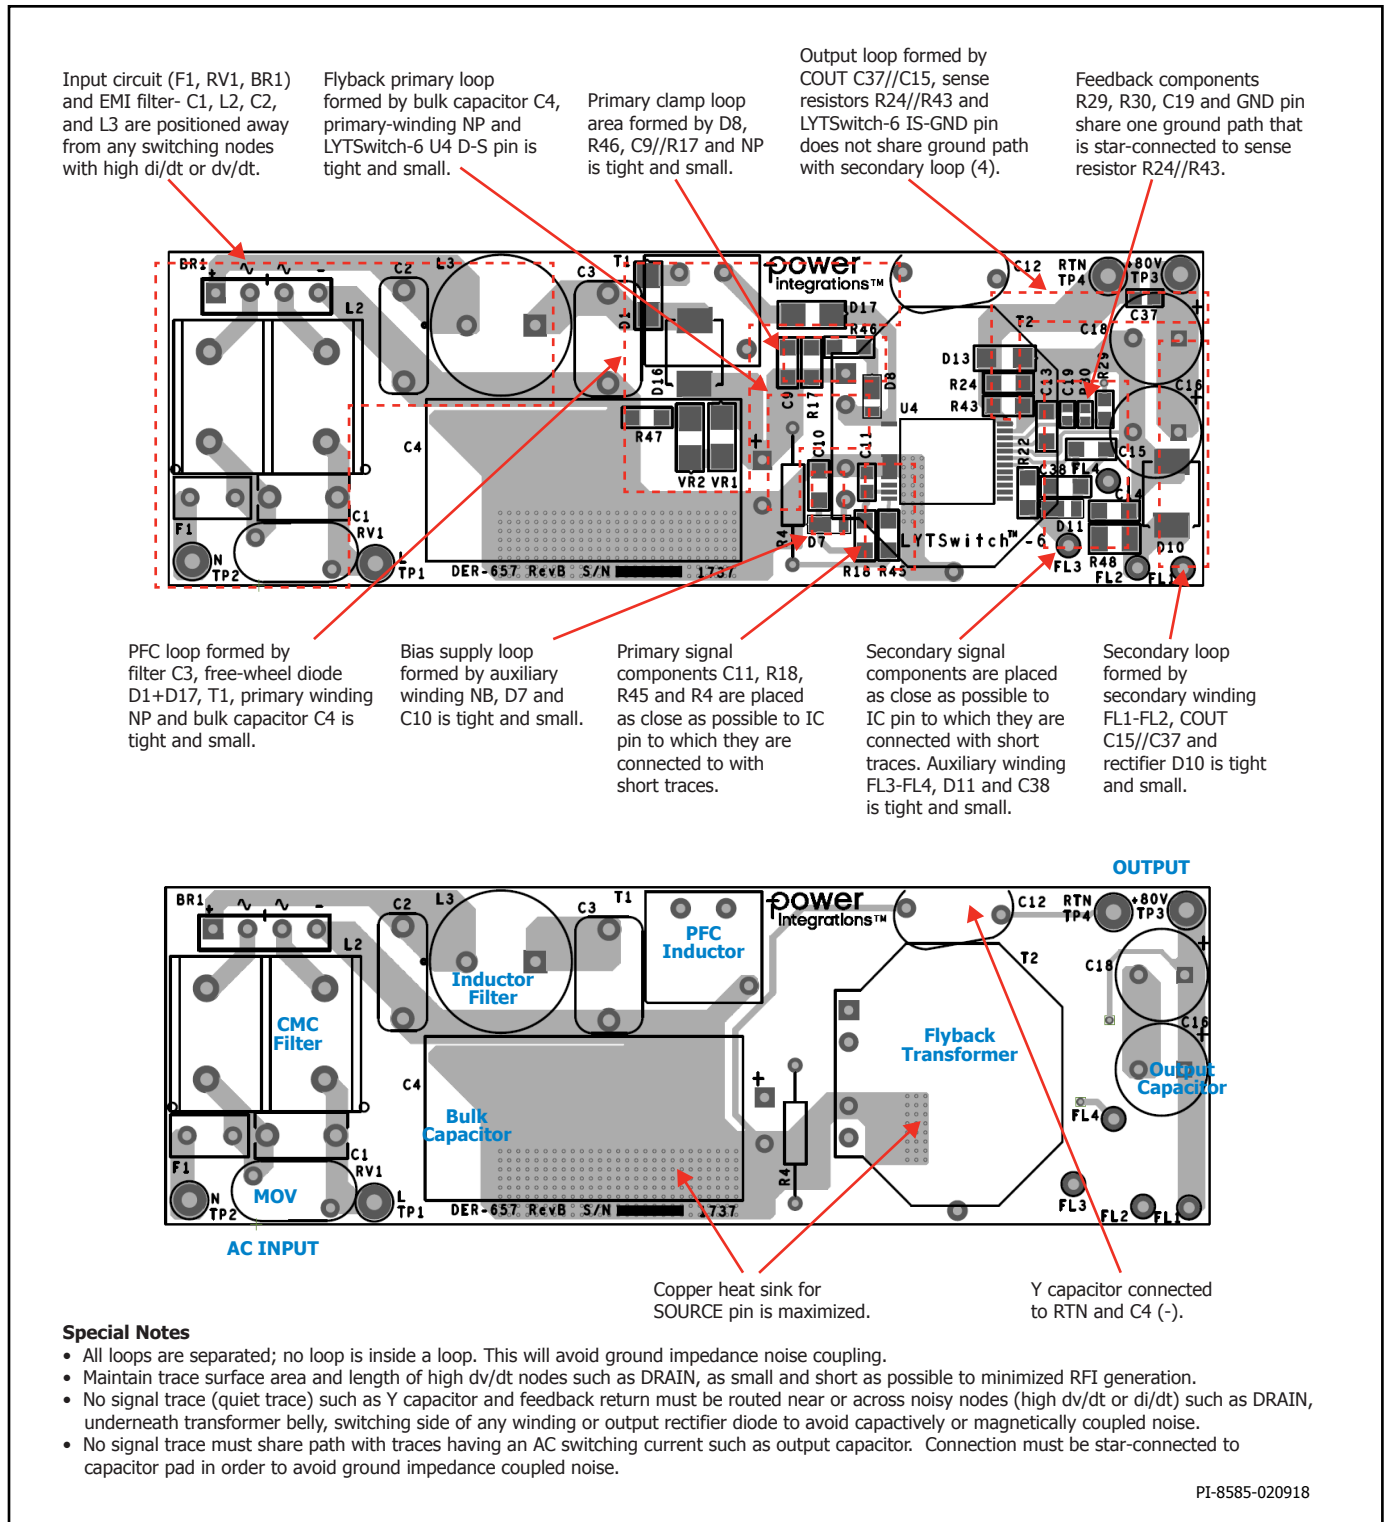

Figure 18. TOP and BOTTOM Sides – Ideal Layout Example Showing Tight Loop Areas for Circuit with High dv/dt and di/dt, Component Placement.
For output constant current (CC) operation, external current sense resistor  $R_{IS}$  should be connected between the ISENSE pin and the SECONDARY GROUND pin of the IC as shown in Figure 18. If constant current (CC) regulation is not required, this pin should be connected to the SECONDARY GROUND pin of the IC.
Use a single-point ground connection from the input filter capacitor to the area of copper connected to the SOURCE pin. See Figure 18.
Loops for circuits with high dv/dt or di/dt should be kept as small as possible. The area of the primary loop – input filter capacitor to transformer primary winding to IC should be kept small. Ideally, no loop should be inside another loop (see Figure 18). This will minimize cross-talk between circuits.
7. A  $\pi$  filter comprising differential inductors and capacitors can be used in the input rectifier circuit to reduce low frequency differential EMI. A ferrite bead (Figure 18) can be added to further improve EMI.
1. Appropriate component placement and small loop areas for the primary and secondary power circuits minimizes radiated and conducted EMI. Care should be taken to achieve a compact loop area. (See Figure 18)